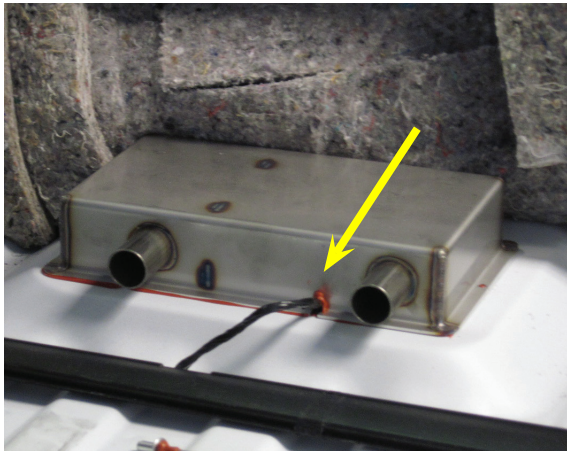

Figure 7. Apply Silicone Around Wires
15. Position the new cover over the yaw sensor, making sure that it fits. Also, be sure the wires pass through the slot in the side of the cover (see Figure 7).
4. Place a generous amount of silicone around the taped wires that pass through the side of the cover surface (see Figure 7).